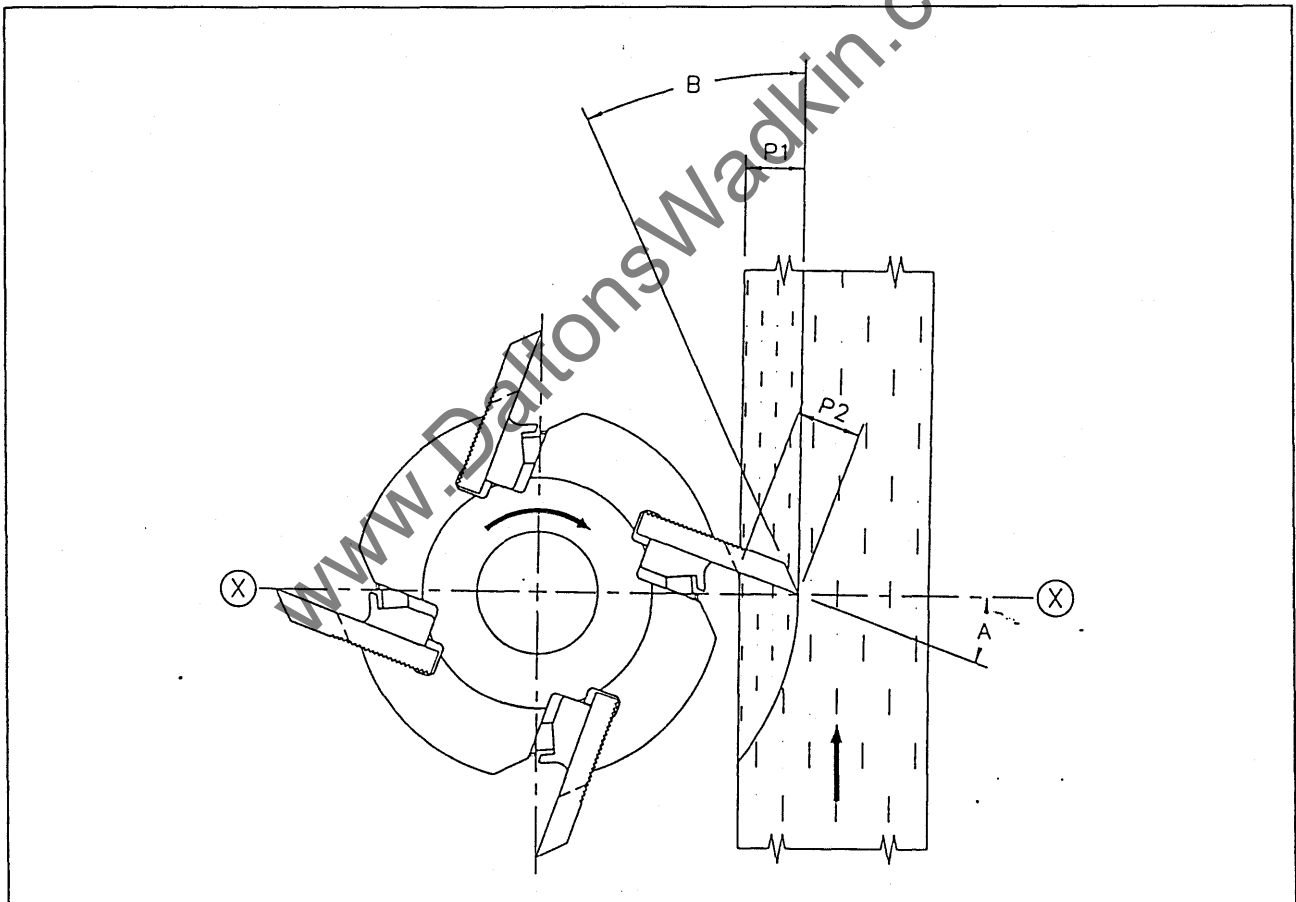

Fig. 1b Note : Profile depth P_2 is larger than P_1 .
If the cutting action of a shaped cutter is examined, *Fig. 1b*, it will be observed that the outer cutting edge reaches the maximum depth of cut before the inner, and that the maximum depth of cut for both edges occurs when the edge passes a line drawn through the horizontal plane of the cutterhead, (X - X).
The cutting angle (A) (*Fig. 1b*) theoretically varies from the top to the bottom of the profile as the cutterhead rotates. The angle is however determined by the particular cutterhead and cannot be altered on the profile grinder.
The clearance angle (B) (*Fig. 1b*) is set on the grinder by raising or lowering the position of the grinding wheel. The angle chosen will depend on the type of cutter, type of timber, jointing requirements etc. for the job in hand.